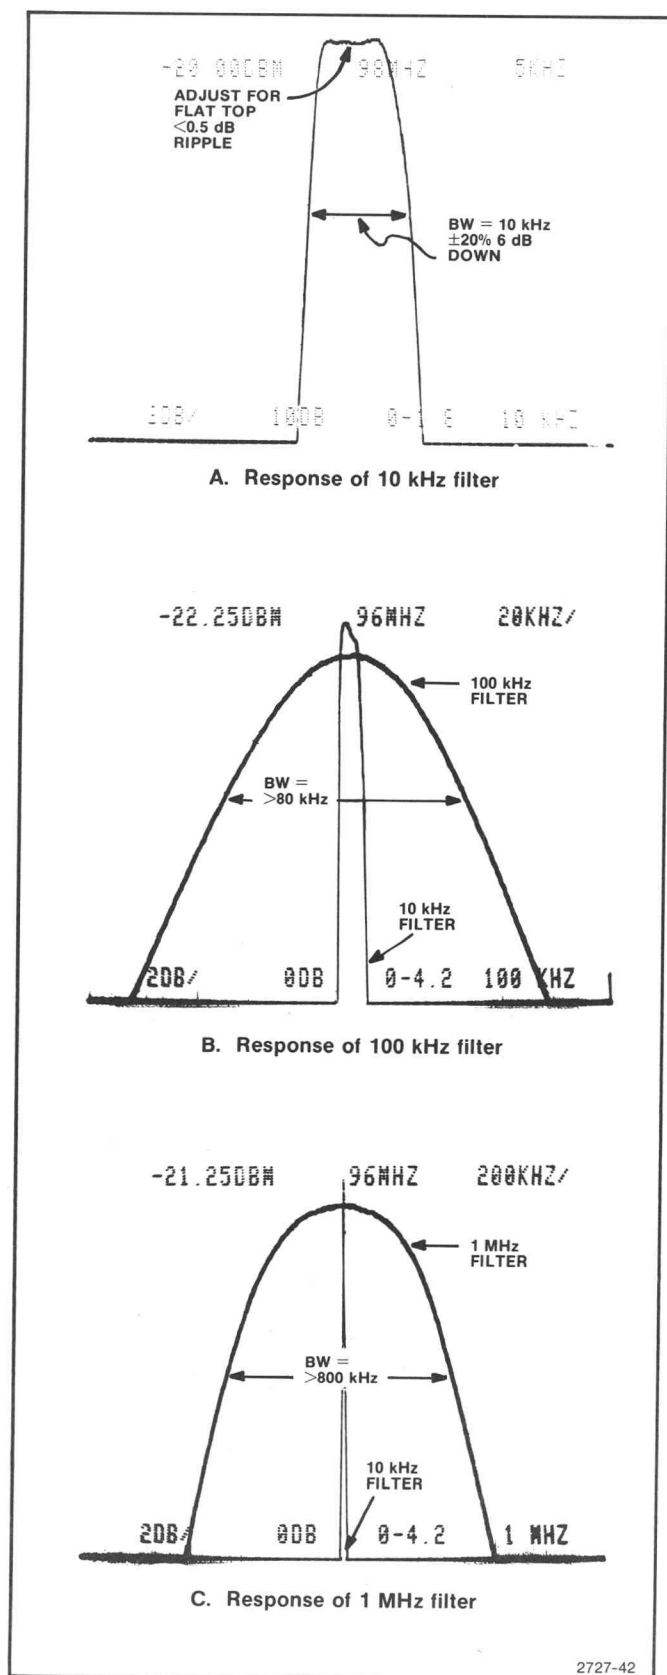

Fig. 3-45. Typical response of 10 kHz, 100 kHz, and 1 MHz bandwidth filters.
w. Check the waveshape, bandwidth, and centering of all filters. Center the 100 kHz and 1 MHz filter response around the 10 kHz filter. If necessary, make only fine or minor adjustments. Figure 3-45 shows typical response shapes.